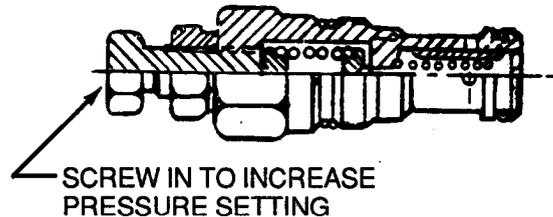

Figure 3-17
4. Remove acorn nut and loosen jam nut (Figure 3-17).